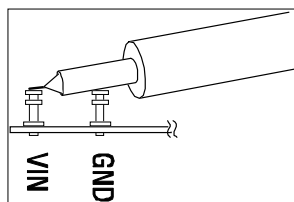

Figure 2. Measuring Input or Output Ripple
7. Observe both output voltages AC-coupled; they should measure noise voltages of less than 2 mVAC each. Refer to Figure 2 for proper measurement technique.